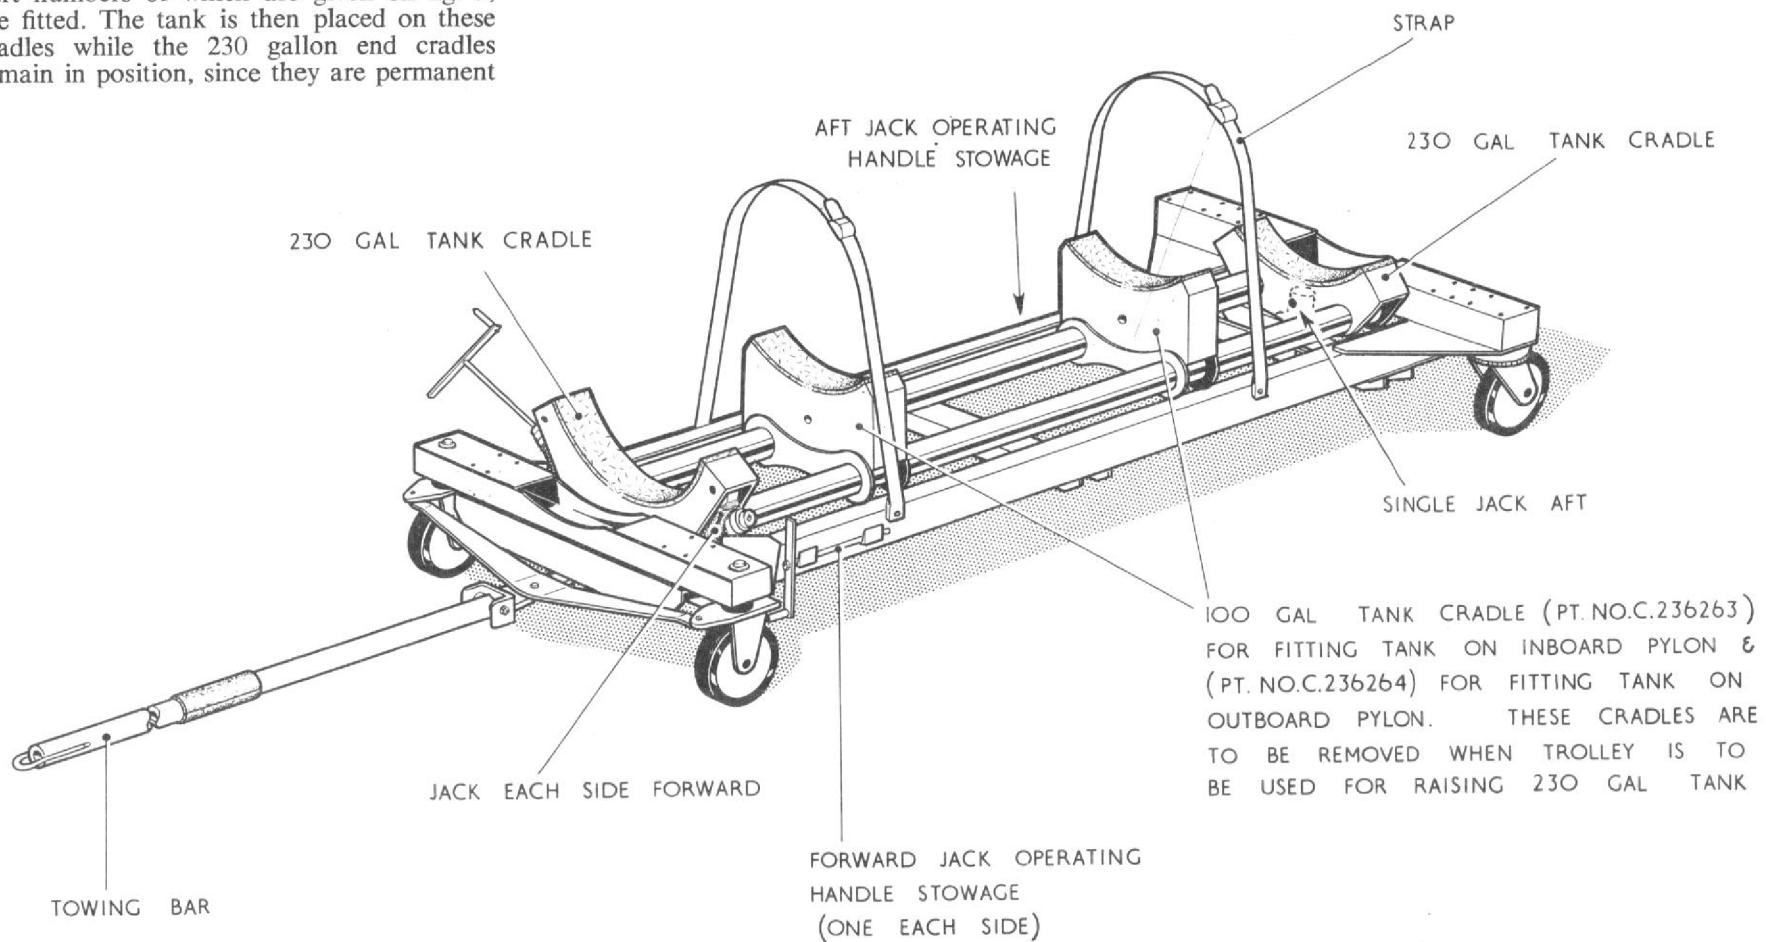

Fig. 9 Drop tank trolley
14. A trolley is provided to transport a drop tank to the aircraft. The trolley, illustrated in fig. 9, is provided with a pair of securing straps to steady the tank during transportation and these must be released before any attempt is made to raise the tank. When a 100 gallon tank is fitted on the trolley, one set of the 100 gallon alternative centre cradles (*inboard or outboard*), the part numbers of which are given on fig. 9, are fitted. The tank is then placed on these cradles while the 230 gallon end cradles remain in position, since they are permanent